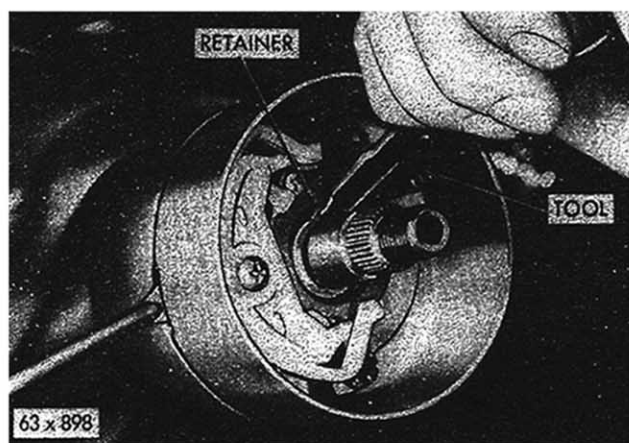

Fig. 15 - Removing Bearing Retainer
- (12) Pry between the jacket tube clamp and the steering gear housing to loosen the jacket tube from the column jacket support rubber insulator boot.
- (13) Slide the jacket tube assembly rearward and off the steering tube.
- (14) Remove the steering column tube coupling pin, two plastic inserts, horn ground strap (Fig. 15) rubber insulator and the steering column tube.
- (15) Remove the rubber insulator boot and the horn ground strap.